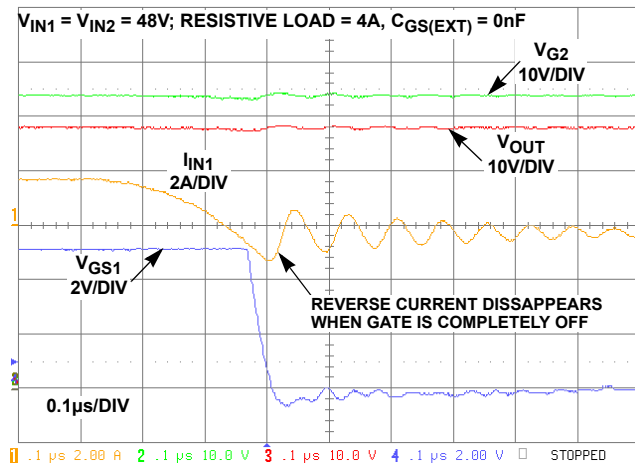

FIGURE 21. FAST SPEED TURN-OFF
tDELAY(HS) is the High Speed Comparator internal worst-case time delay. The setup in Figure 17 can be used to perform the Input dead-short test; a pulse generator is connected between Gate-Source of QSHORT1 (use pulse mode single shot, set the frequency to <10Hz and pulse width of approximately 10ms, tRISE = 1μs). Follow steps 1 through 5 in the two feed parallel operation section. Make sure that both feeds operate in parallel current sharing mode. Proceed with the short test by applying the single pulse to the gate of QSHORT1. Once turned on, QSHORT1 shorts VIN1 causing it to fall quickly (in less than 10μs). Figures 21, 22 and 23 show the results for different combinations of CGS1 and load current. Make sure to connect the VIN1 shorting-MOSFET terminals as close as possible to the VIN-GND (J4 to J6) terminals on the EVAL board to minimize lead impedance and reduce parasitic ringing.